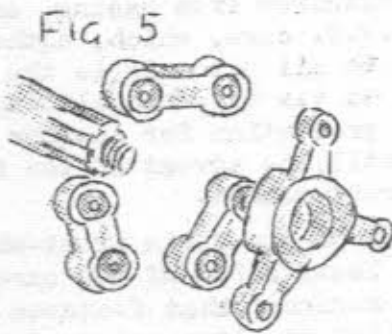
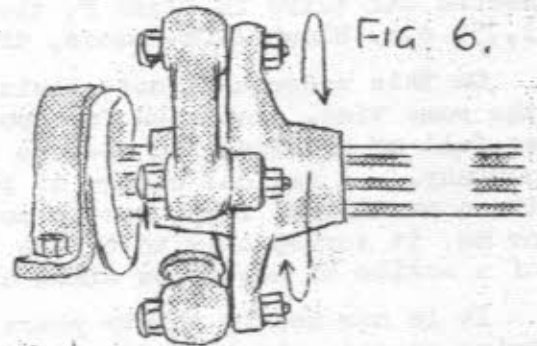

FIG. 5
FIG. 6
4) Twiflex Transmission Coupling links ( from Ludowicis, Bonnie Teare etc) can be converted simply and effectively, although they give a much stiffer action. My old Speed 25 has been running for 3 years now without any sign of wear. This system relies on centrifugal force to make it more or less self-aligning. Figure 5 & Figure 6 illustrate this system, showing the three separate links and their attachment to the spiders. Each of the links contains 2 silentbloc bushes. These links cost about £1/10/- each. They are relatively cheap, however, when their long life is considered. They are not suitable for the front coupling on vintage cars, since they cannot provide the support for the clutch shaft spider. One real advantage on post-vintage cars is that the spiders do not have to be removed for any replacement. Their one fitting problem is that the I-D of the Silontbloes is larger than the  $\frac{5}{8}$ " bolt. This requires a spacer tube as in diagram, Figure No. 7. This can be procured in a length of about 1 ft. and out to size later. Now and longer H.T. bolts will be required. Cut the spacer tube a little longer than the inner metal bush on the Silontbloc, so that the spacer tube will pinch onto both bolt and inner tube when the bolt nut is tightened down hard. If the couplings are roughly aligned and left